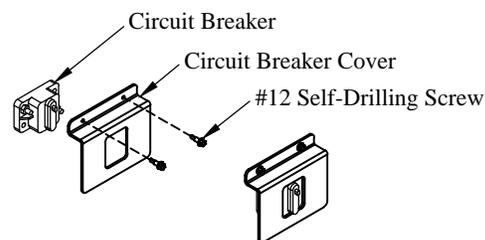

Figure 14: Circuit breaker cover.
- 14. Install** the plastic circuit breaker cover over the circuit breaker using the supplied #12 self-drilling screws (Figure 14).